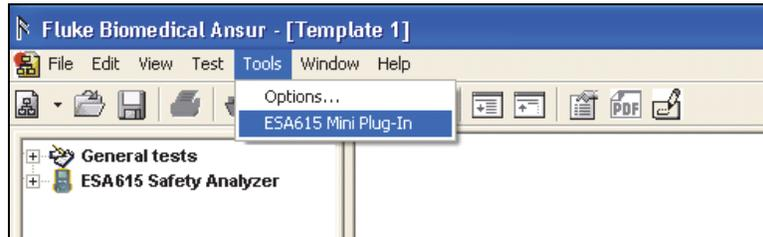

Figure 6-2. Start the ESA615 Mini Plug-In
2. Click **Tools | ESA615 Mini Plug-In** in the Ansur main menu. See Figure 6-2.